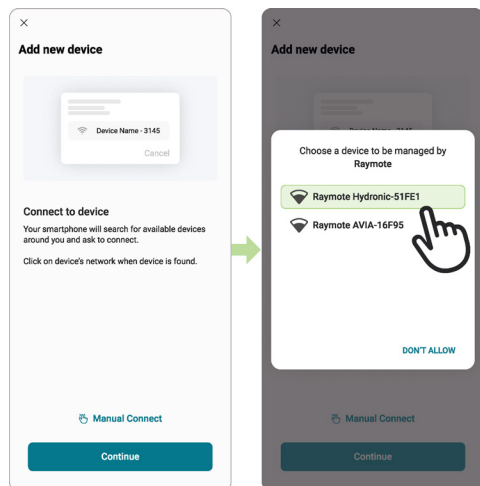

Figure 15. Connect with Android Smart Phone
2. In **Android**: Depending on your configuration, one or more devices will appear on the app. Select the HOTSPOT identifier that matches the unit's display as shown in **Figure 15**.